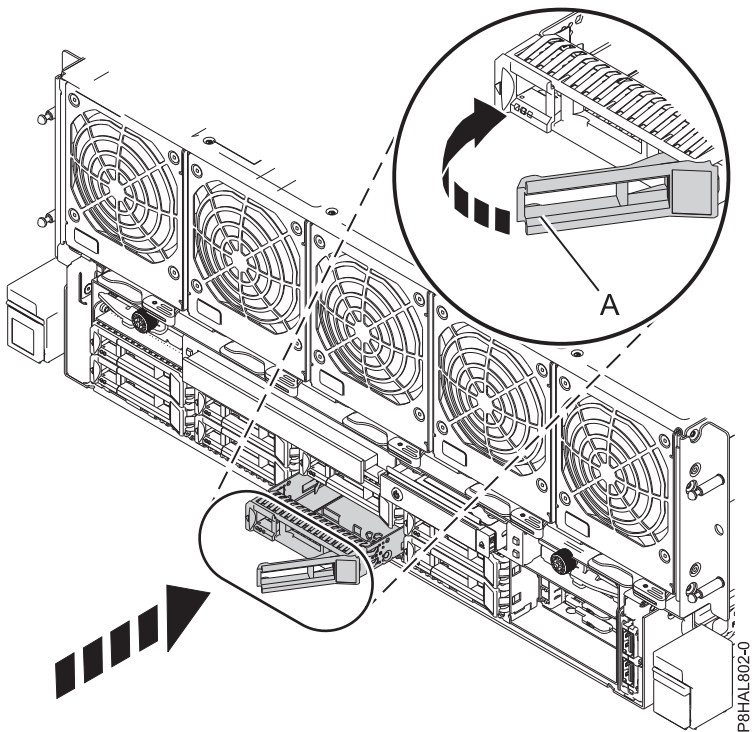

Figure 35. Replacing a disk drive in an 8408-44E or 8408-E8E system
4. Unlock the drive bay handle (A) by pressing it and pulling it out toward you. If the handle is not all the way out, the drive does not slide into the system. See Figure 35.
8. When the identify LED flashes for the selected slot, slide the drive all the way into the slot, and push the drive bay handle (A) in until it locks, as shown in Figure 35